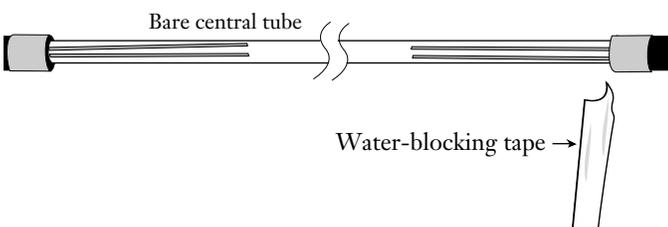

Figure 24
6.14 Locate the longitudinal seam of the water-blocking tape which covers the central tube. Separate the tape from the tube. Use scissors to cut the tape flush at both exposed ends of the cable sheath (Figure 24).